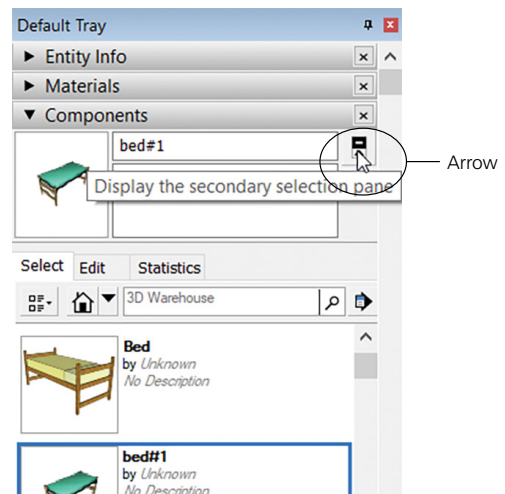

Figure 5-55: Click the arrow to open the bottom panel.
1. Click the arrow in the upper-right corner of the *Components* browser to open the secondary (bottom) pane (Figure 5-55). It looks just like the top pane. However, you can create your own collection folders in this pane and drag components from the top pane down into them.